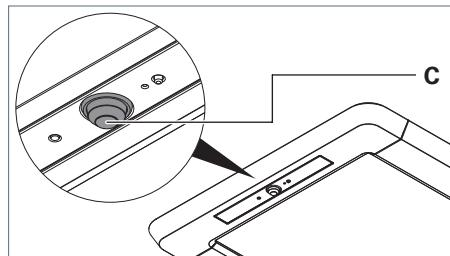
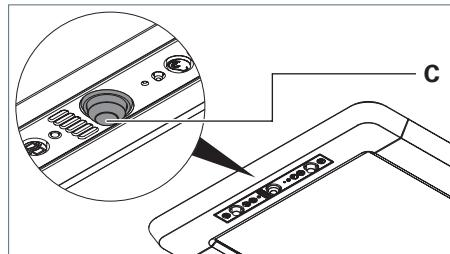

Fig. 31: PIR sensor, version R.
Fig. 32: PIR sensor, version RX.
- ▶ Set the ball head **C** of the PIR sensor to the required direction, see Fig. 31 and see Fig. 32.